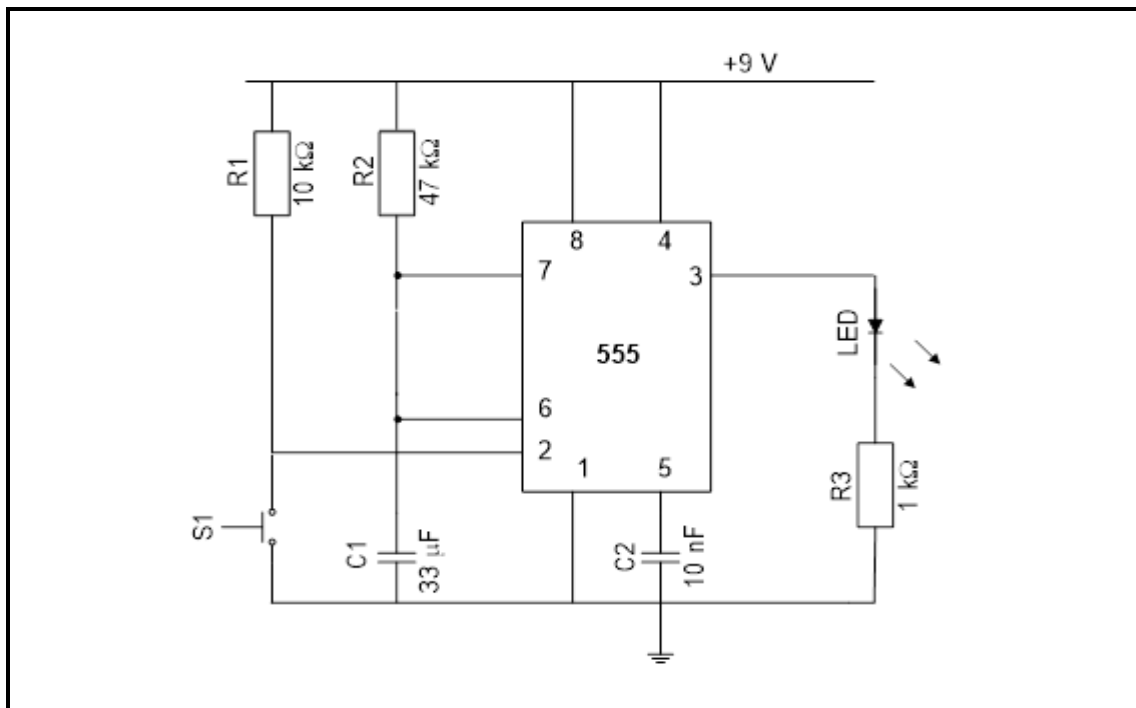

FIGURE 1.9
- D directly proportional to the rate of change of the input signal. (1)
- 1.9 With reference to FIGURE 1.9 below, the function of the $10\text{ k}\Omega$ resistor is ...